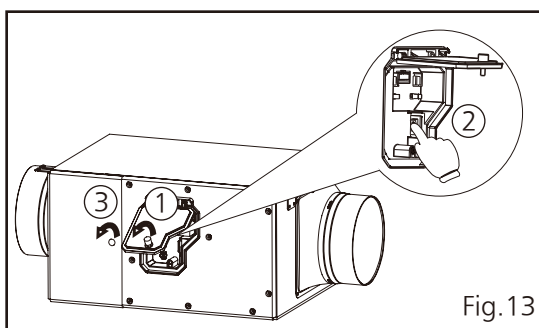

Fig.13
6. Twist hand screw open maintenance board and pull out the sub-efficient filter, fill in beginning time on sub-efficient filter, then install back. (Refer Fig.13~15 on P.10~11)
- ① Open the control box cover by twist hand screw. (Fig.13)
- ② Turn off main switch. (Fig.13)
- ③ Twist hand screw open maintenance board. (Fig.13)